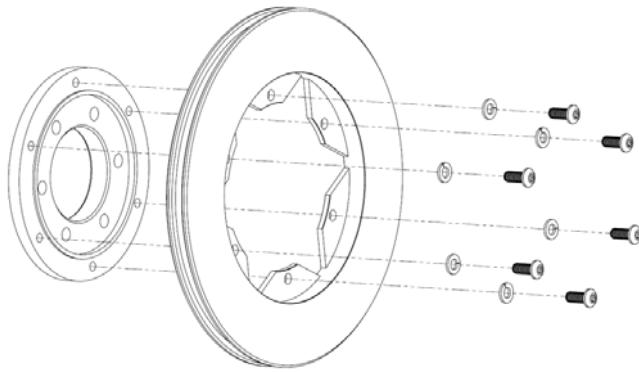

Figure 6. Use thread locker when assembling the 6 bolts and washers to each rotor sub-assembly.
- 8) Assemble the rotors to the rotor adapter (i.e. rotor "hat") using the supplied 5/16 x $\frac{3}{4}$ " button head screws and the 5/16 split lock washers. Each rotor needs 6 screws and washers as shown in Figure 6. Apply a few drops of thread locker on to the threads of the screw during assembly. **Tighten the bolts to 180 in lbs.**